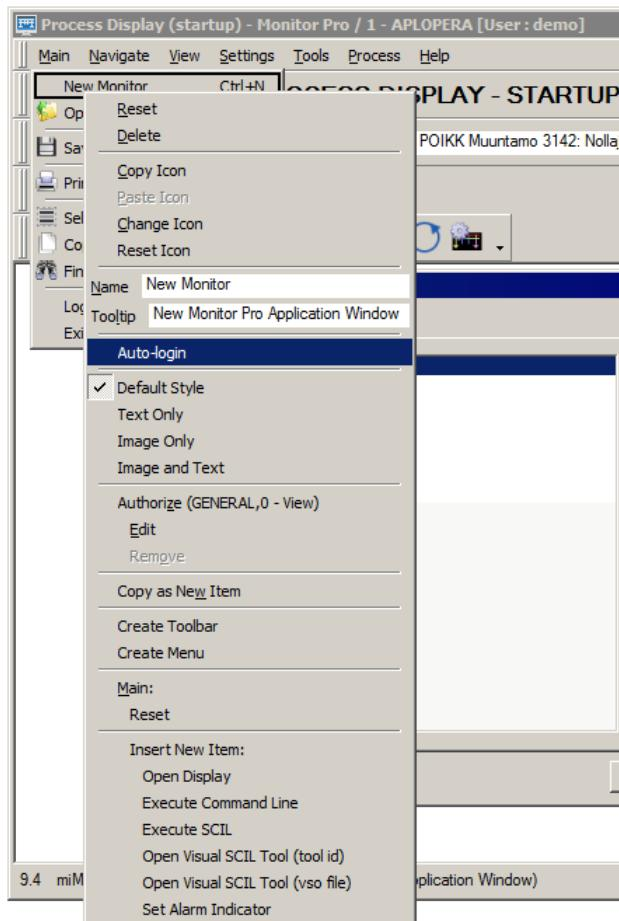

Figure 223: Configure new window login
3. Select the desired action, see Figure 223.